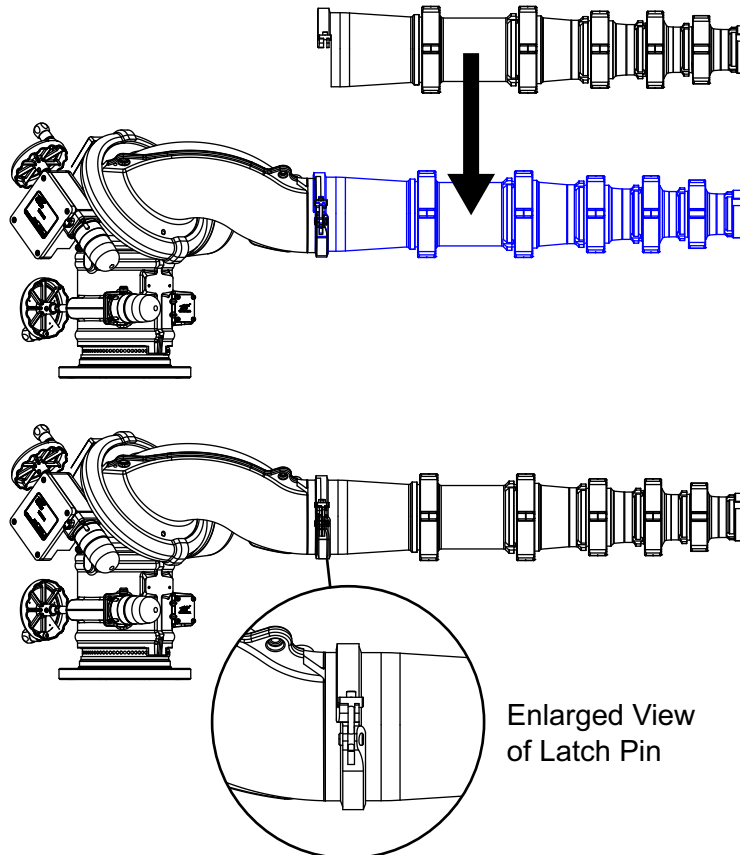

Figure 4.4
1. Position the monitor as shown in figure 4.4.